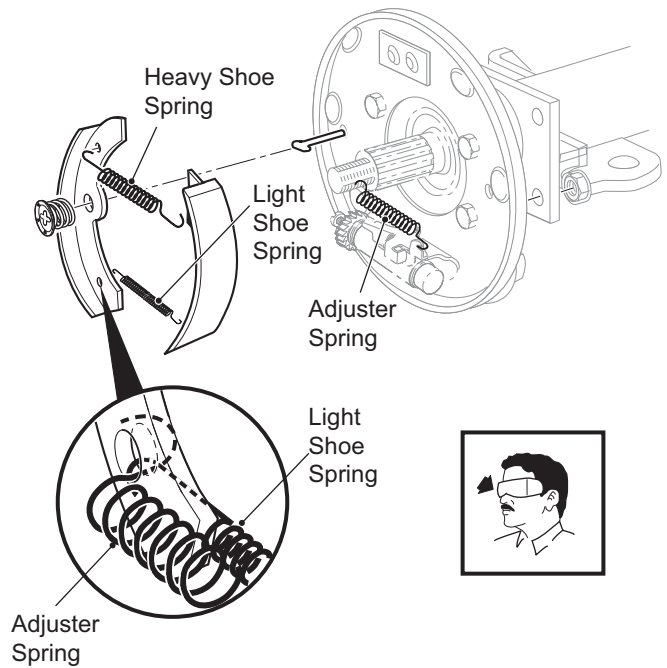

Figure 10 Orientation of Brake Shoe Springs
- The heavy top spring is installed with both spring hooks installed down through the brake shoes (Ref. Figure 10).